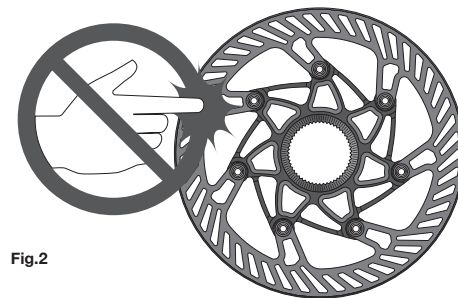

Fig.2
- Never touch the disc brake rotor, even when the bicycle is stationary. The rotor itself may be very hot, and could cause serious burns. You are also reminded to take great care when the bicycle is moving, as the rotor is sharp and could cause serious injury to the fingers if inserted into the rotor openings while in motion (Fig.2).